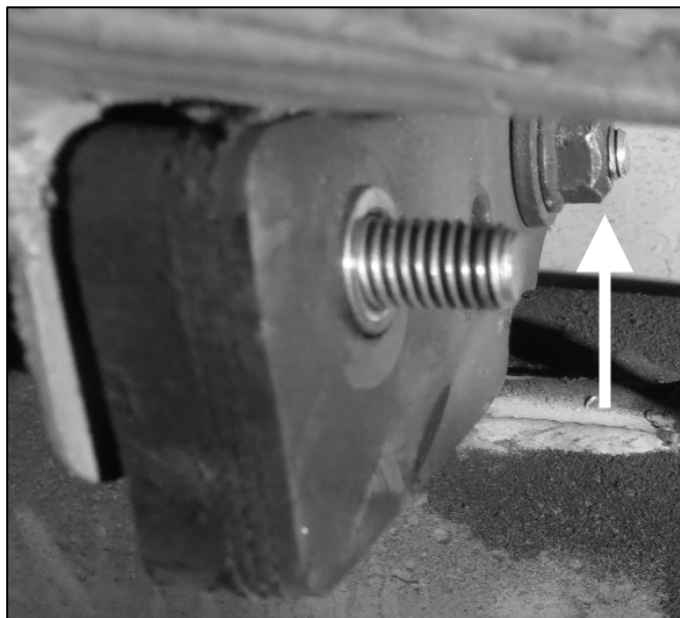

Figure 4
3. Cut the support rod at indicated location in Figure 4